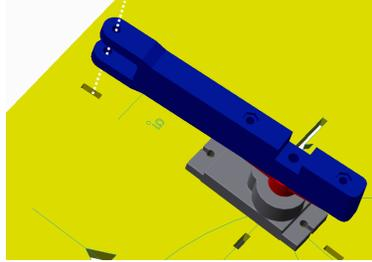

Figure 27:  $5^\circ$  alignment
to command it to  $5^\circ$ . Turn the potentiometer until you see servo 1 line up exactly with the  $5^\circ$  notch as shown in Figure 27. Change the first value in **m\_of\_theta\_min** to equal the value of the pulse width on the serial monitor. If the arm does not reach the  $5^\circ$  notch, decrease the first value of **m\_of\_theta\_min** until you can reach the  $5^\circ$  notch. Save *calibration.h* and re-upload *RRR\_microsecond\_calibrate\_pot.ino*.
- 4: Turn potentiometer until Servo arm lines up with  $5^\circ$  notch (Fig. 27)
- 16: Turn the potentiometer until servo 1 lines up with the  $90^\circ$  notch (Sec. 11.3, Fig. 27)